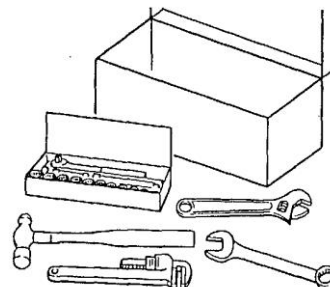

Figure 4: Ordinary Set of Mechanics Tools
- 7) Ordinary set of mechanic's tools (figure 4).